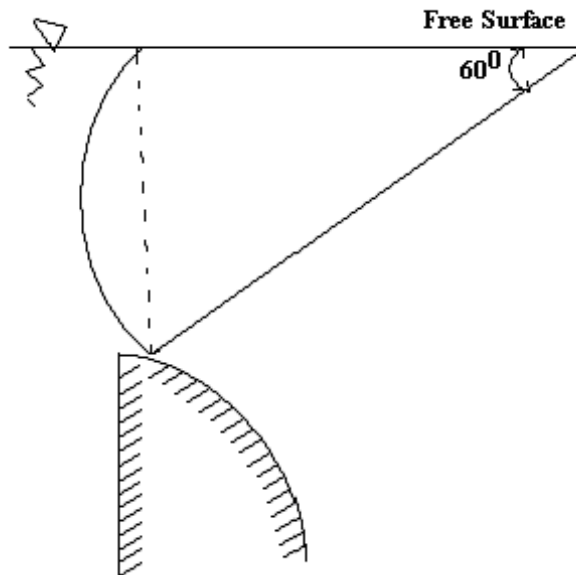

Figure 2b
- (b) Determine the magnitude and direction of the resultant force acting on the radial gate of radius 4m if its length is 4m as shown in figure 2b. [8+8]